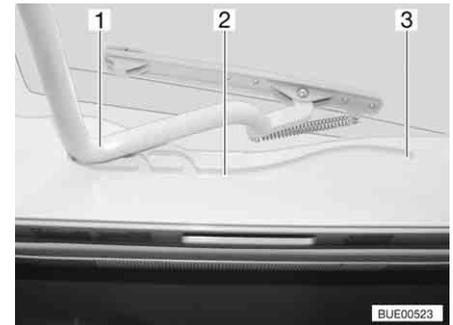

Fig. 112 Heki skylight, guide
- Pull the bar (Fig. 112,1) in the guides (Fig. 112,2) to the rearmost position (Fig. 112,3).
- Use both hands to push the bar (Fig. 112,1) slightly upwards.
- Pull the bar in the guides (Fig. 112,2) to the desired position.